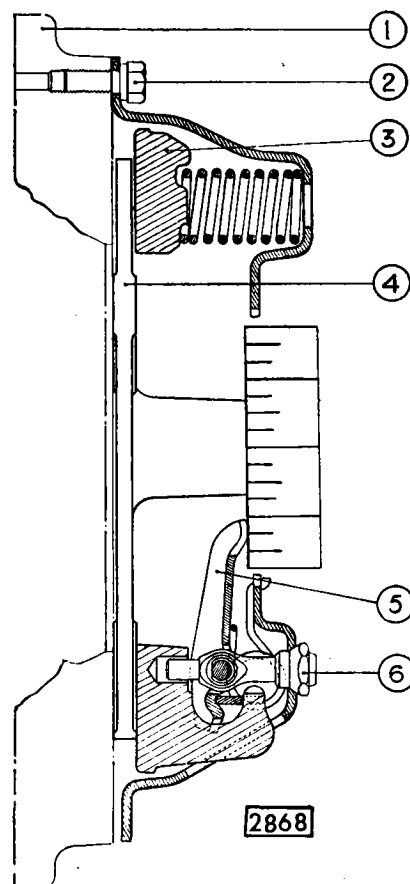

Fig. 16. Release lever adjustment.
(1) Using a Borg & Beck gauge plate (Fig. 16)
- (a) Mount the clutch on the actual or a spare flywheel (1), or alternatively clamp it down to a flat surface, with the gauge plate (4) occupying the position normally taken by the driven plate. The ground lands of the gauge plate should each be located under a release lever (5).
- (b) Adjust the levers by turning the eyebolt nuts (6) until the levers are just in contact with a short straight edge resting upon the boss of the gauge plate.